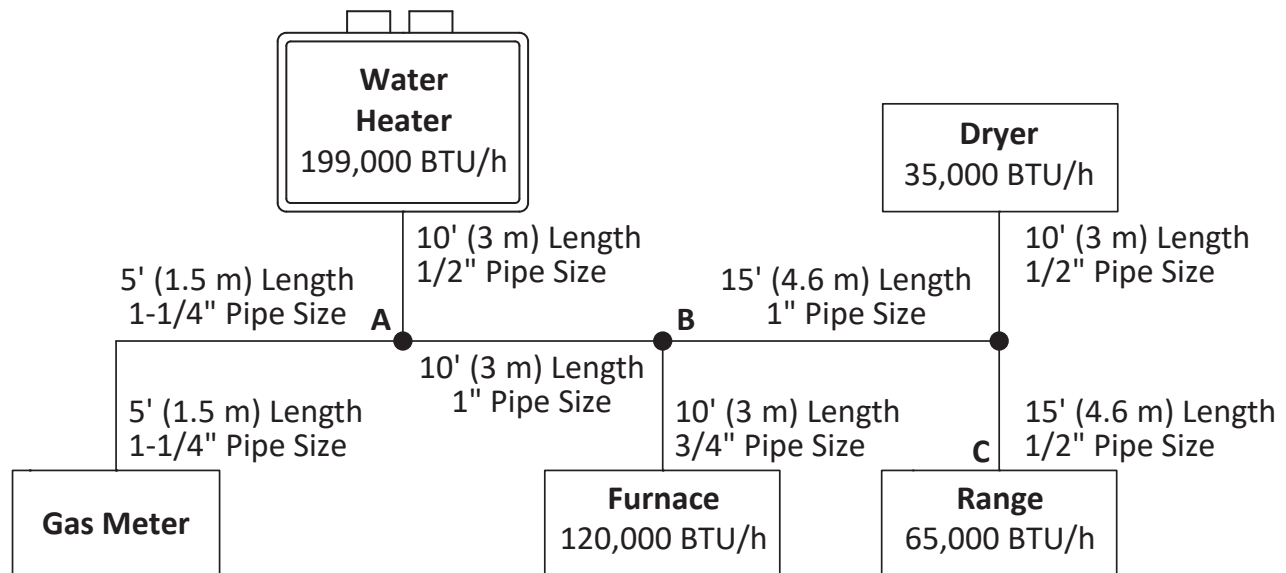

Figure 19 - Pipe Sizing Diagram
Based on Energy Content of 1,000 BTU/Cubic feet (Figure 19):
- 1 Divide each appliance's BTU/h requirement by 1,000 BTU/ft³ to get the appliance's ft³/h requirement. Take into account the distance the appliance is from the gas meter. Use Table 13 and Figure 19 below to properly size the line.